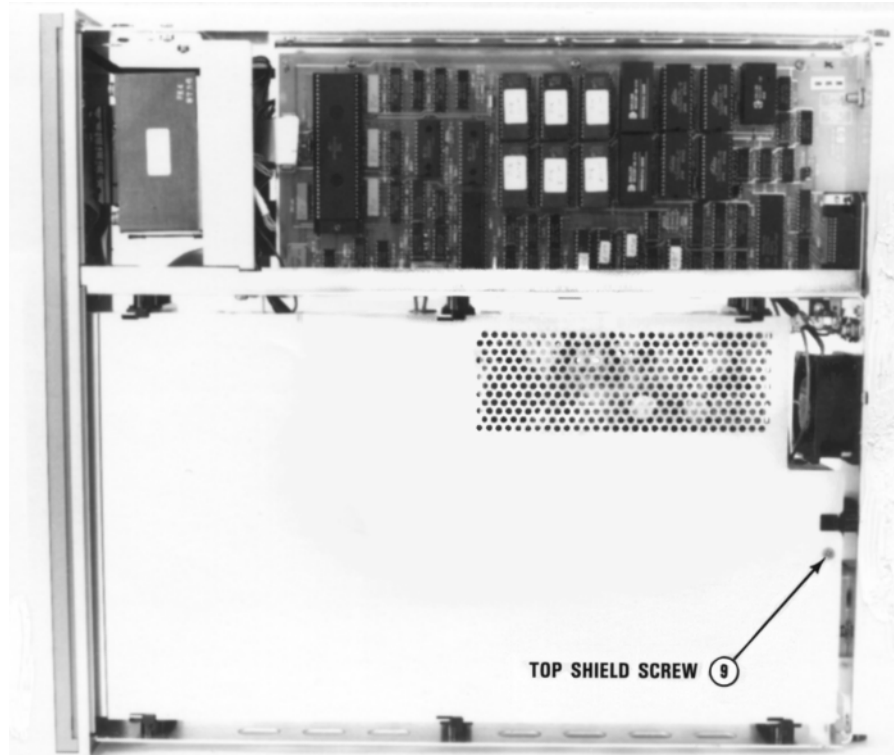

Figure 41. 3458 Inside top view
1. Refer to Figure 41. Turn the instrument over so its bottom sits on your work bench.
4. Refer to Figure 41. Replace the top shield. Line up the slots on the shield with the shield retainers. Then push the shield toward the front of the instrument until the shield screw hole lines up with the hole in the chassis. Use the #TX 10 Torx driver to reinstall the shield screw.